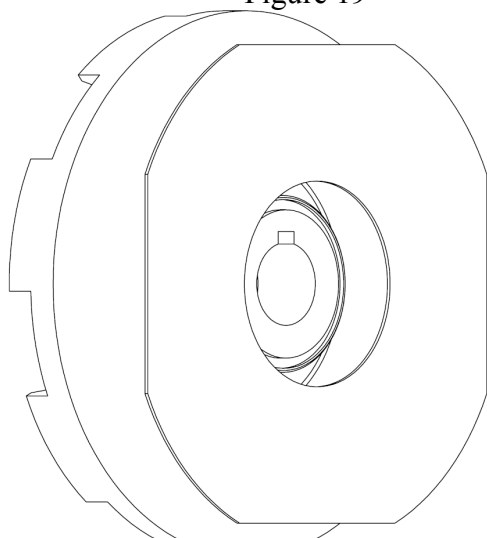

Figure 20
3. Once the stub shaft is able to slide on the motor shaft place the plastic stub-shaft setting shim on the back of the impeller, over the impeller hub. Figure 20.